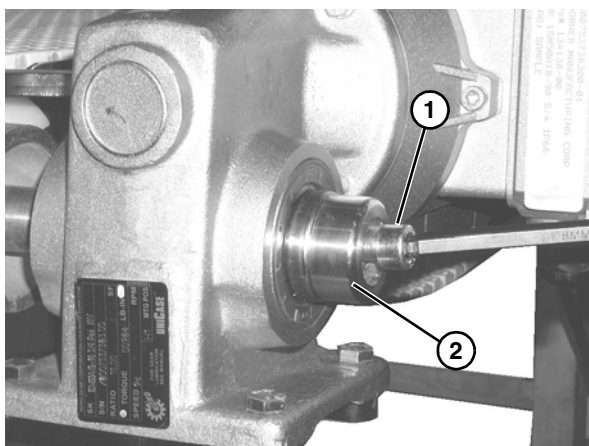

Figure 67
1. Remove the plastic cap on the end of the motor and remove the socket head screw (Figure 67, item 1) and the bore plug (Figure 67, item 2).